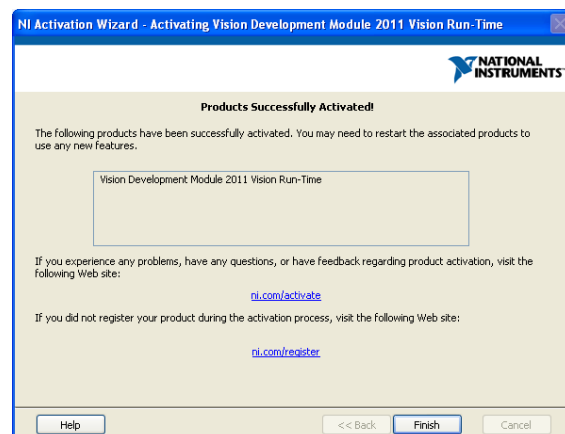

Figure 8. Successful activation screen
- 10) After entering the Serial Number and activating the software, select *FINISH* (**Figure 8**).